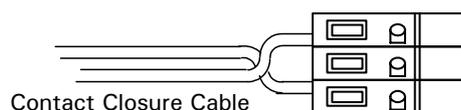

FIGURE A-7. Connecting the Contact Closure Cable
- b) Attach a 3-way connector (which is supplied with the *UltiMate* system) to the cable as presented in FIGURE A-7.